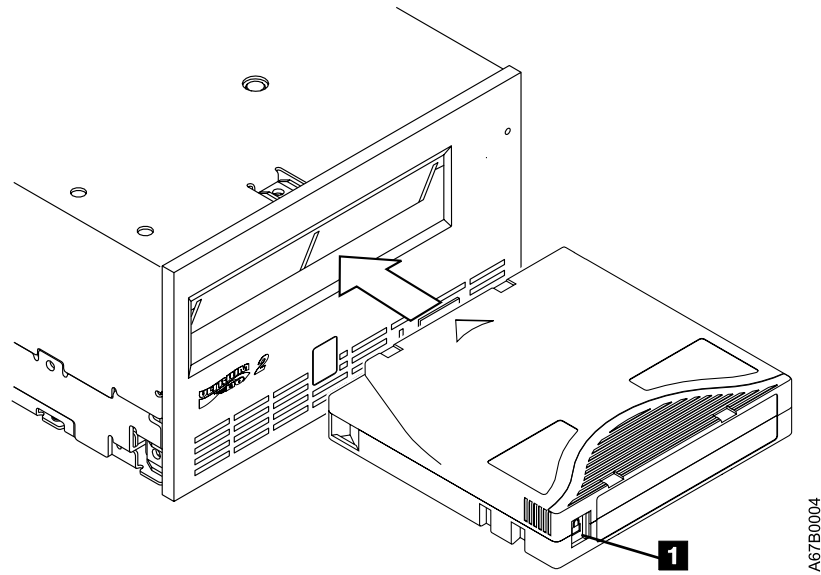

Figure 10. Inserting a cartridge into the Ultrium 2 Tape Drive
3. Grasp the cartridge so that the write-protect switch faces you (see **1** in Figure 10).
Clean the drive head whenever **C** displays on the single-character display and the status light is flashing amber. To clean the head, insert the cleaning cartridge into the tape load compartment (see Figure 10 on page 34). The drive performs the cleaning automatically. When the cleaning is finished, the drive ejects the cartridge. The IBM TotalStorage Cleaning Cartridge (Ultrium LTO 2), the IBM LTO Ultrium Cleaning Cartridge, and most universal cleaning cartridges are generally valid for 50 cleanings.